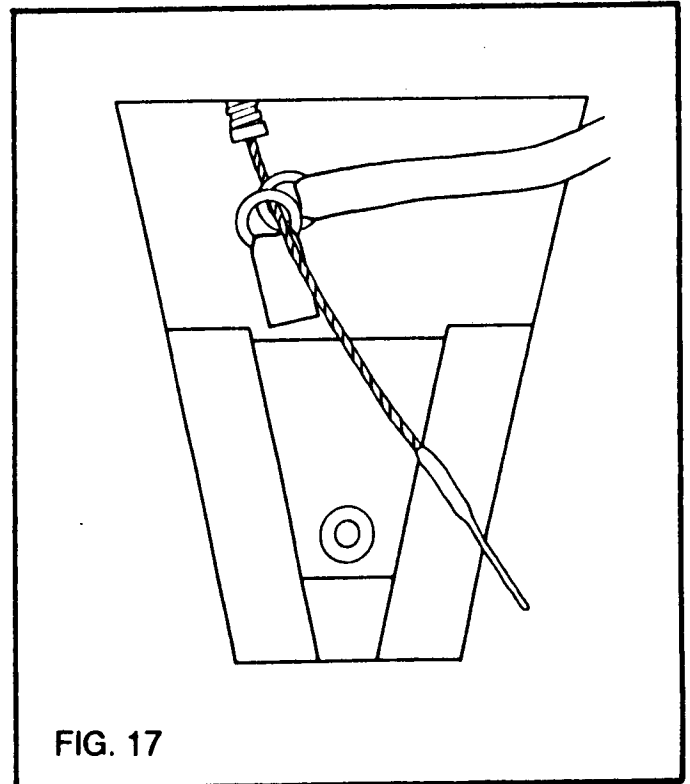
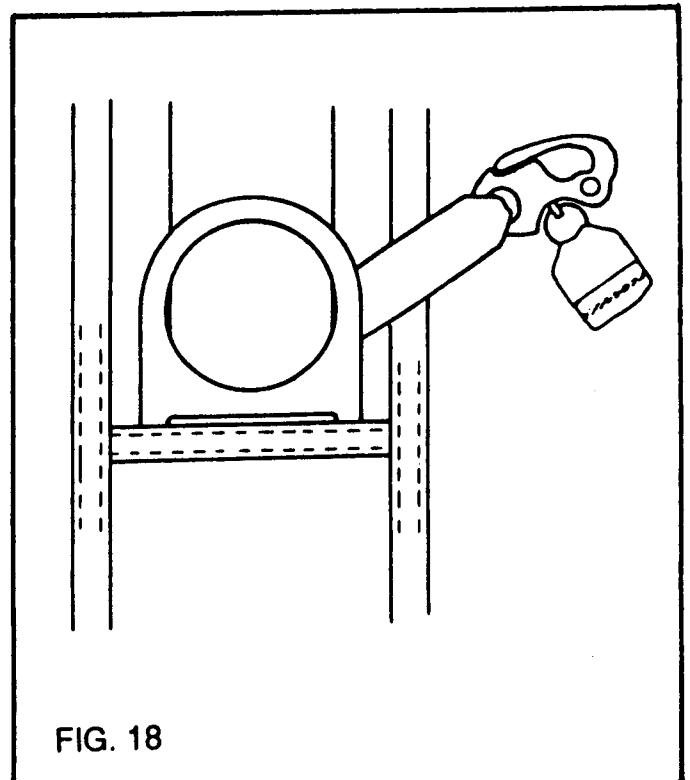

FIG. 17
FIG. 18
Immediately after exiting the end of its housing, the reserve ripcord must be passed thru the small ring on the end of the Reserve Static Line (RSL), and then thru the same type of ring mounted on the reserve top flap (see FIG. 17). The velcro on the RSL should then be mated to the velcro track provided on the rear surface of the reserve right front riser. Route the RSL over the shoulder so that the end with the bronze snap-shackle exits from under the reserve riser just behind the main support ring of the harness (see FIG. 18). There should be about two to three inches of the RSL remaining so that when assembling the DOLPHIN with a main canopy, the snap shackle can be attached to the ring on the right main riser.
16) Lay the pilot chute out in a full circle with the mesh side up and fold it in half with the mesh on the inside as shown in FIG. 17.
17) Fold the curved edge up to the attachment of the handle as shown in FIG. 18.